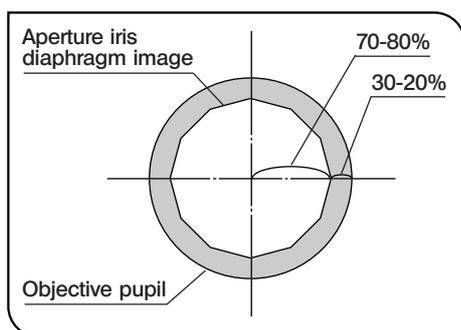

Fig. 18
2 Using the Aperture Iris Diaphragm (Fig. 18)
- Remove the eyepiece when necessary (and insert the CT-5 or U-CT30 if you have one). Then look into the eyepiece sleeve; you will see the field of view as shown in Fig. 18. Now adjust the aperture iris diaphragm lever as required.